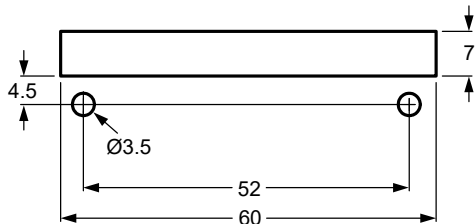

Fig. 1.0
(A) Make the holes in the housing or panel (fig.1.0) :